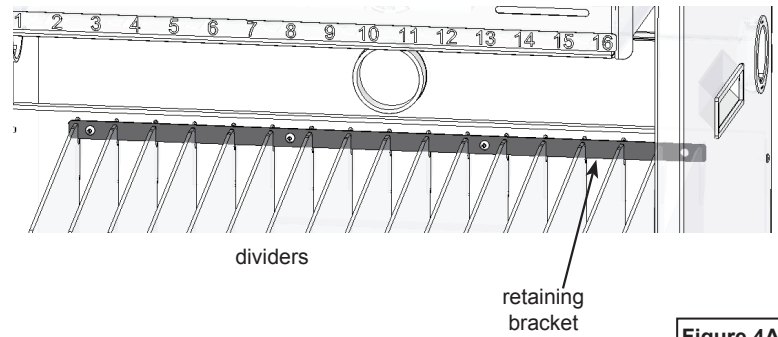
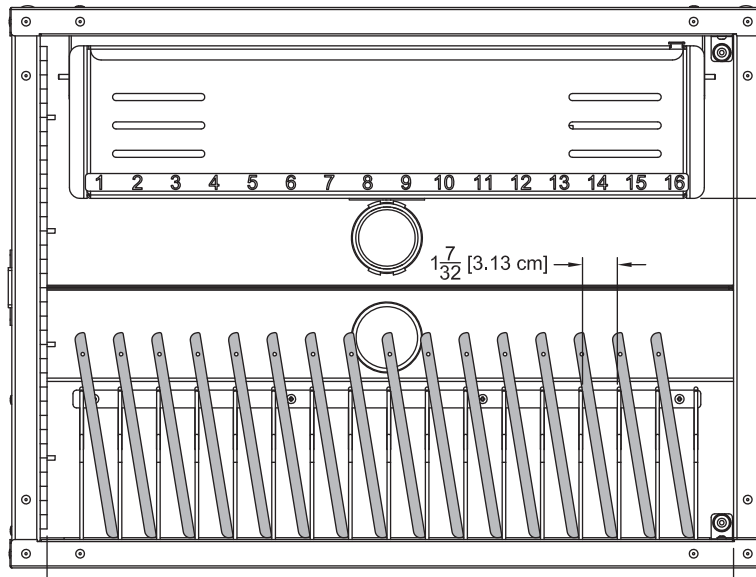

Figure 4A
Figure 4B
1. The cabinet dividers can be configured for use with multiple devices **Figure 4B-C**. If dividers need to be reconfigured, remove the retaining bracket at the back of the cabinet with a Phillips screwdriver, **Figure 4A** remove/reconfigure the dividers, then replace the bracket.